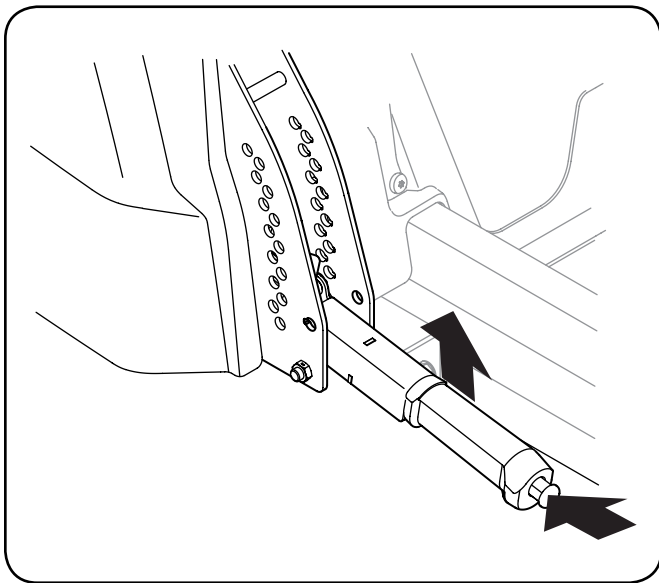

Figure 20
3. Use the deck lift handle to raise the deck to its highest position by depressing the button at the end of the handle and pulling upwards. Make sure the latch engages on the pin. See Figure 20.